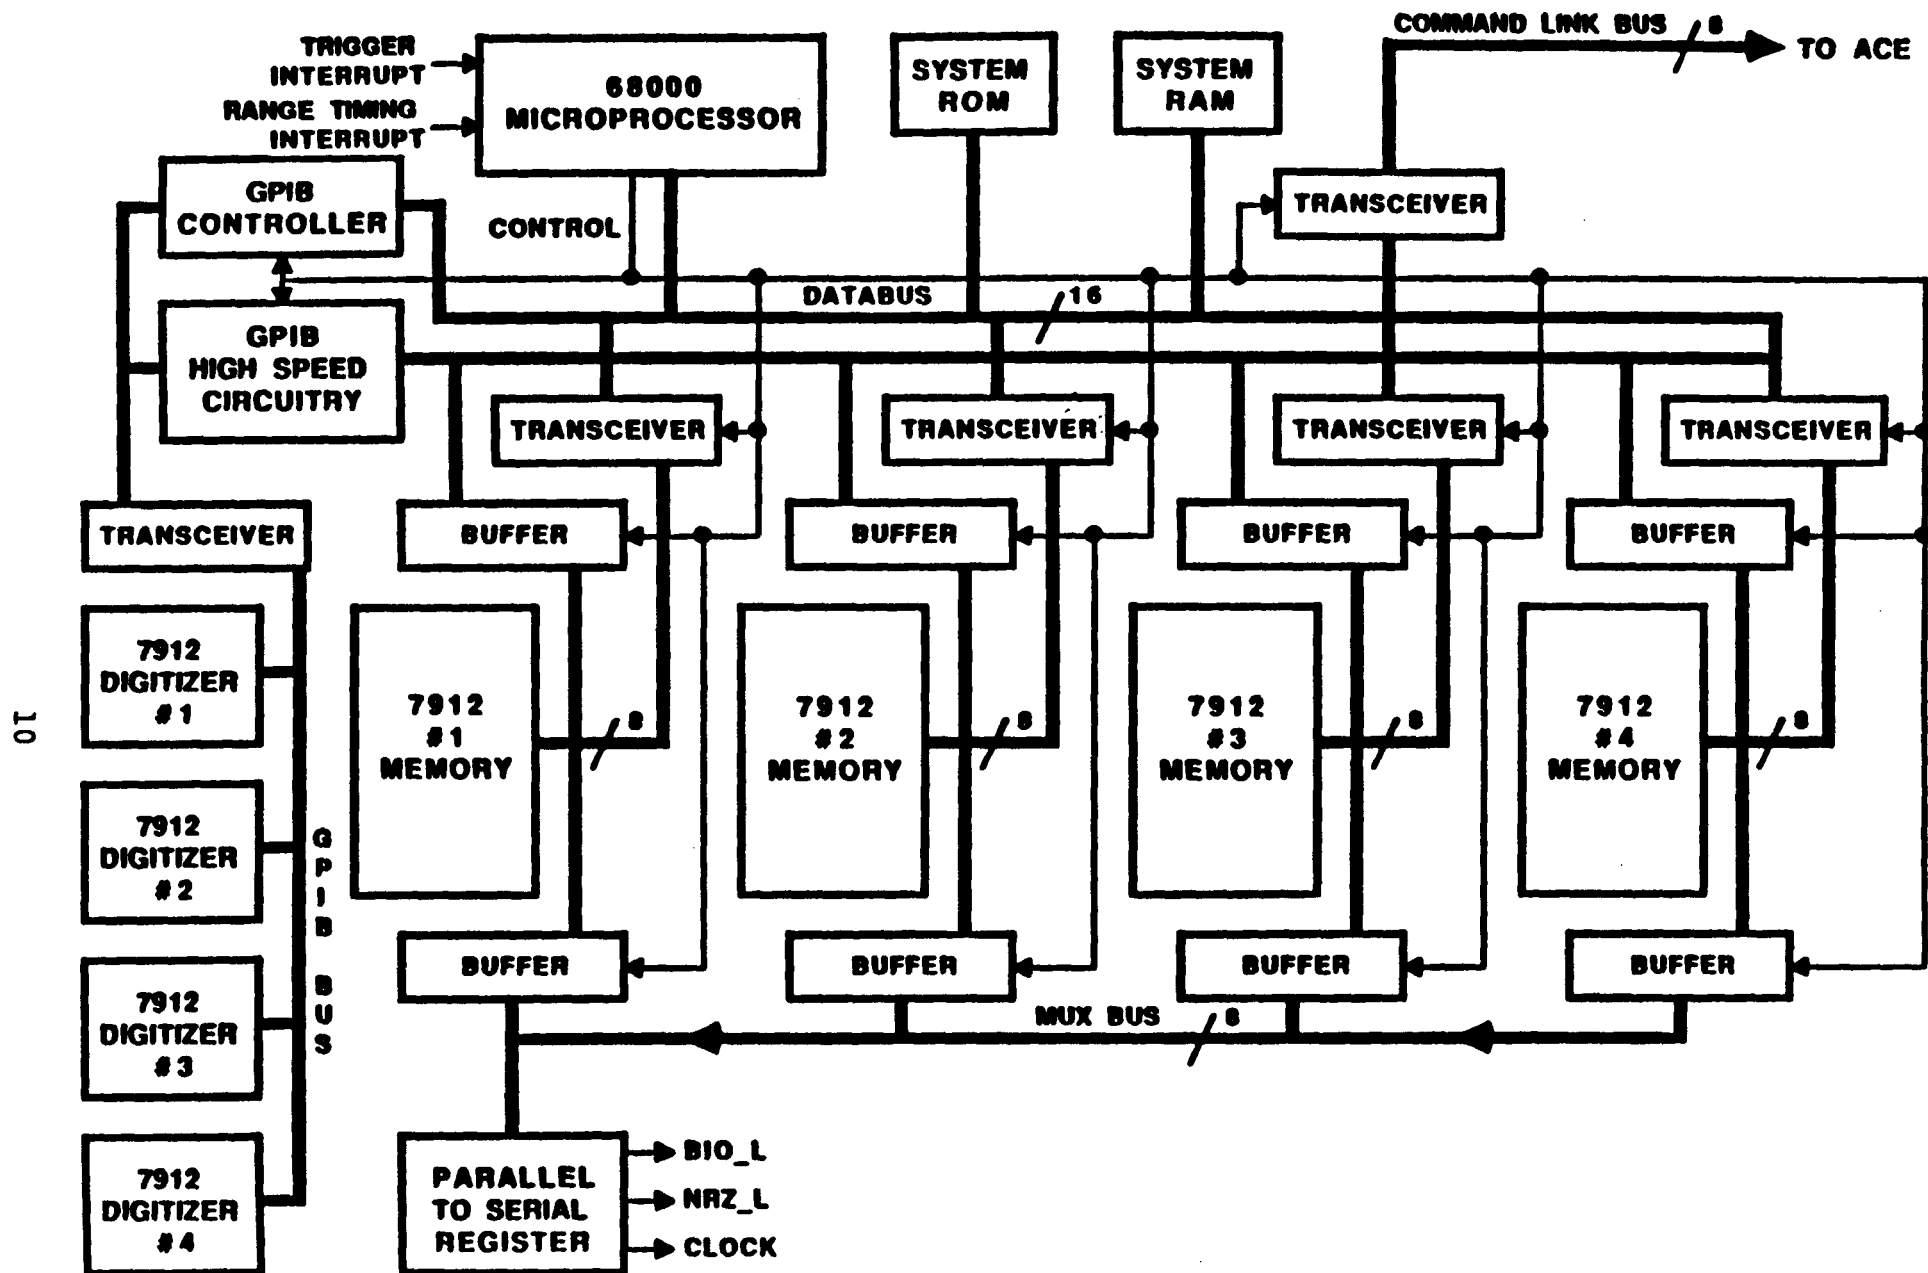

Figure 1. DRC Data Flow in Circuit A
- . Four identical but independent circuits. (Figure 1 shows the data flow of one of the four circuits used inside the DRC.)
Description	This section describes how the hardware operates in the DRC. Using Figure 1 will make the information easier to understand.